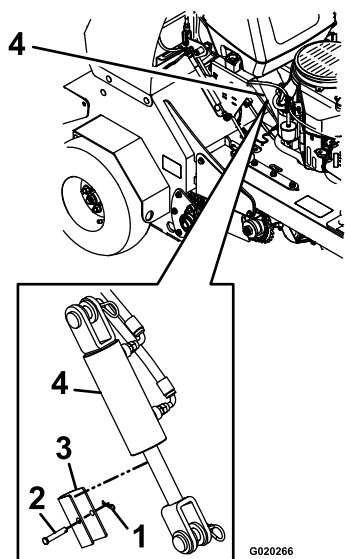

Figure 6
9. Remove and retain the hairpin, clevis pin, and cylinder stop as shown in Figure 6.